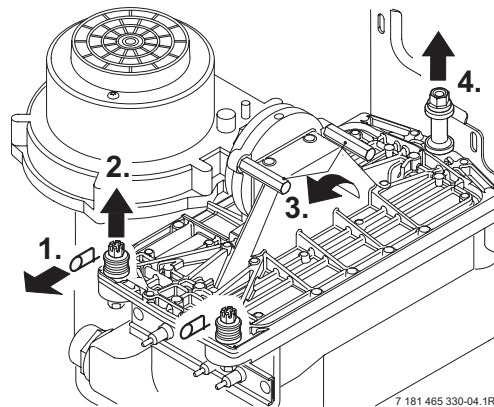

Fig. 55
- ▶ Remove the clips (1) and unscrew the two bolts (2). Refer to fig. 55.
- ▶ Unscrew and remove the two hexagon screws securing the fan (3).
- ▶ Slacken fully the rear securing bolt (4).